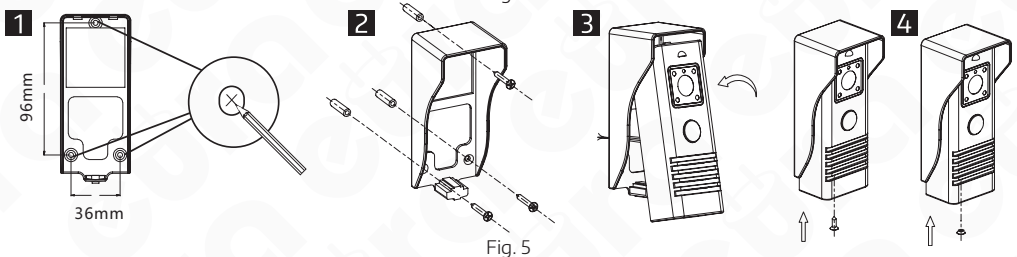

Fig. 5
2. Mark the locations for the mounting pins on the wall through 3 openings in the bottom of the protective canopy (fig. 5, pos. 1).
3. Drill 3 Ø5mm installation openings in the marked locations, then insert 3 mounting pins into them (fig. 5, pos. 2).
4. Use 3 mounting bolts to attach the protective canopy to the wall (fig. 5, pos. 2).
5. Connect 4 cores of the monitor wire to the box, place the box under the protective canopy (fig. 5, pos. 3), priorly attached to the wall.
6. Screw in the lower mounting bolt* (fig. 5, pos. 4).